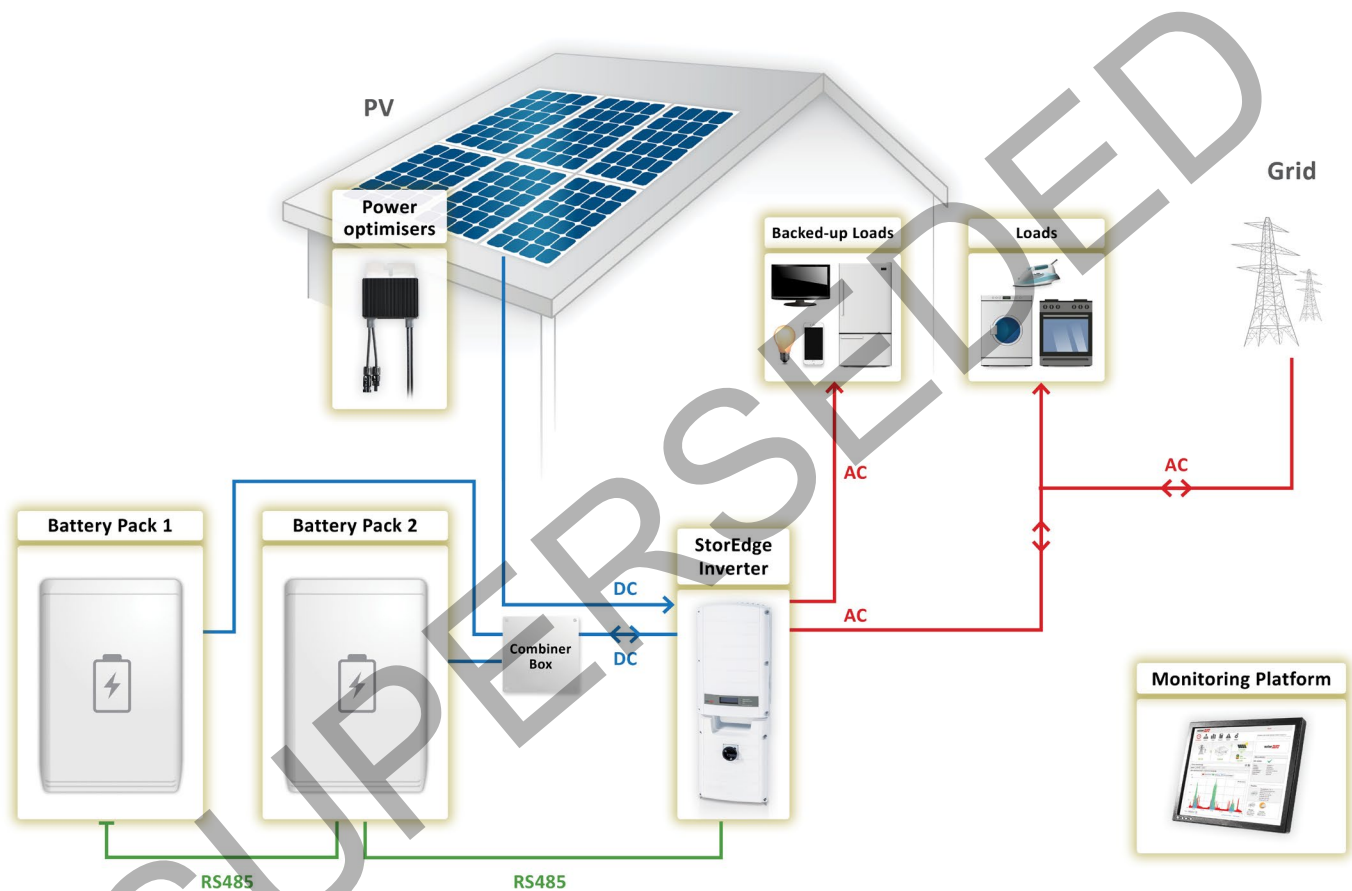

Figure 17: Backup Power Only – Additional Capacity with Two Batteries
1. If needed, install the RS485 Plug-in in the inverter connected to the battery (the StorEdge inverter in Figure 17). If there is an RS485-2 port in the inverter, use it instead of the expansion kit. The RS485-E port in the following instructions refers either to the Expansion port or to the RS485-2 port.